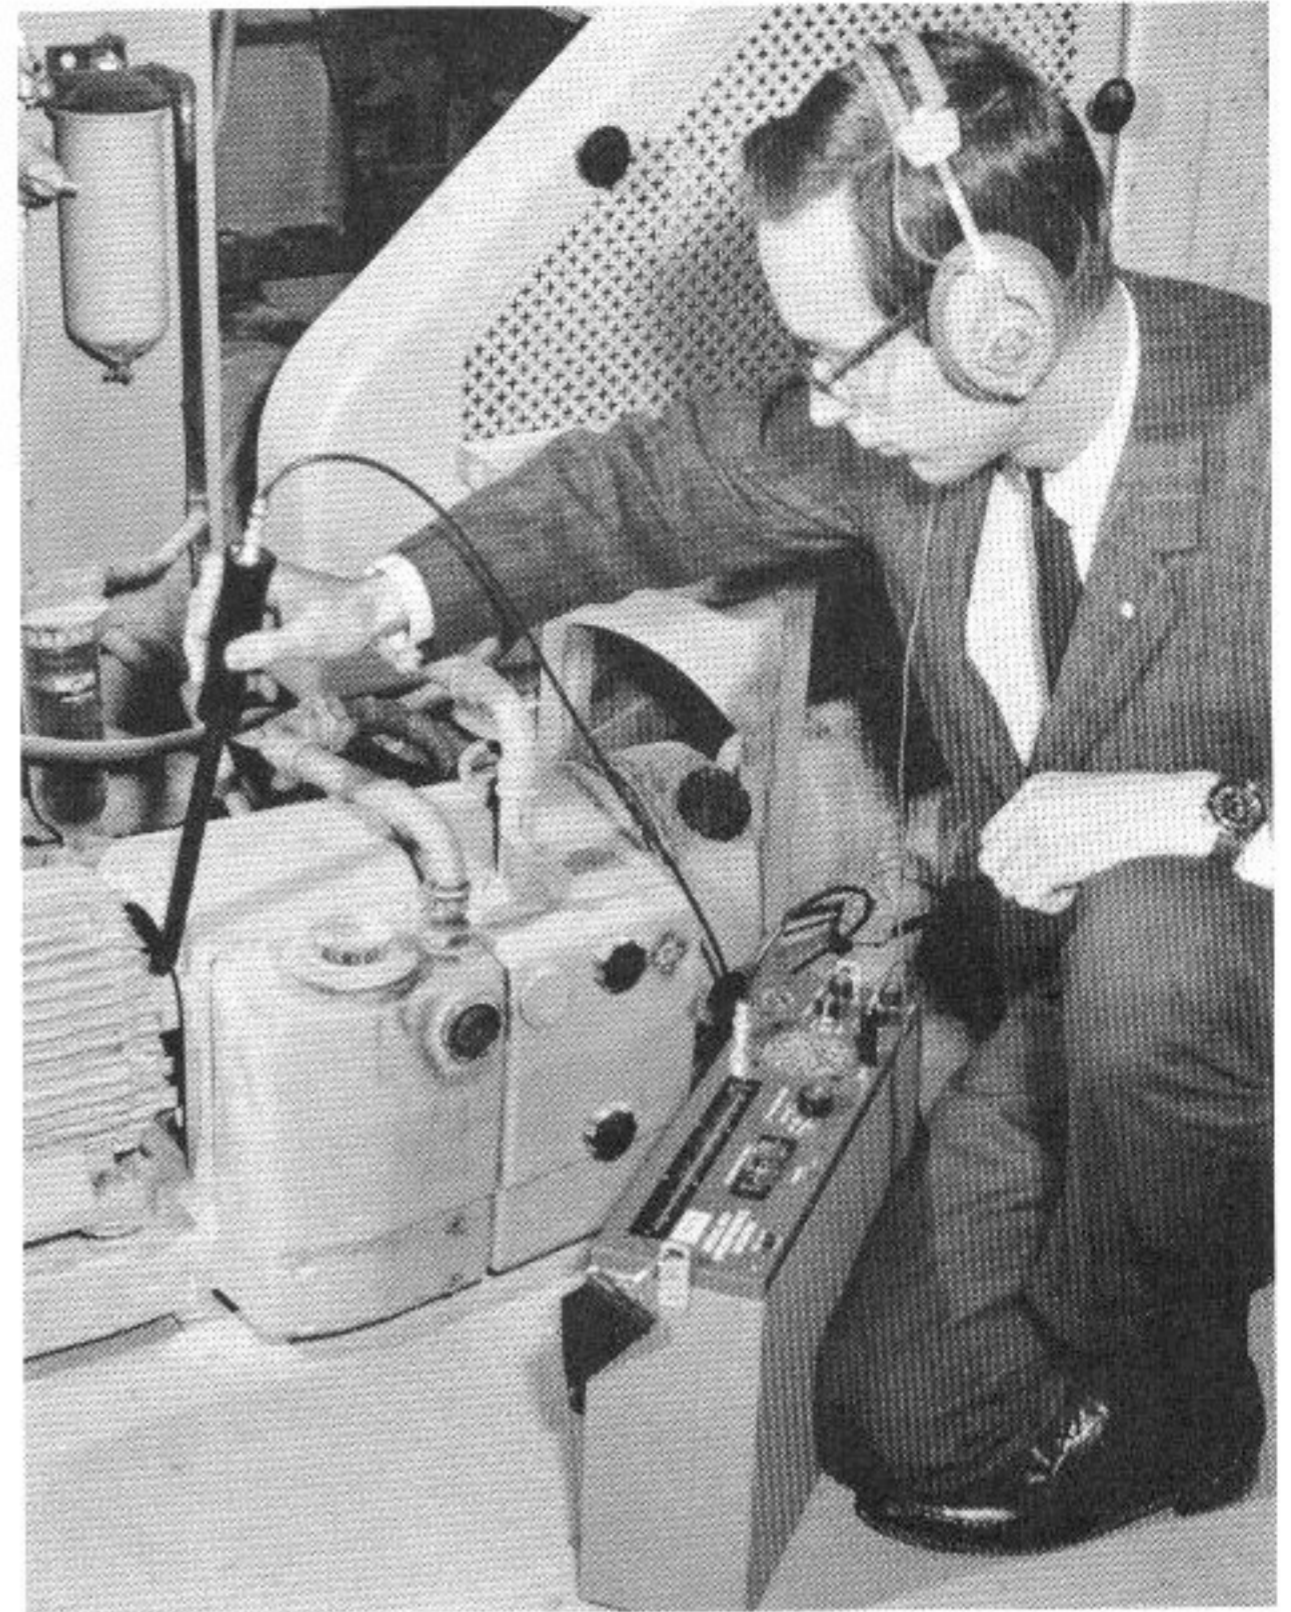

Figure 14
5.3 Final Readings. When the investigator is very close to the source of interference, the directional antenna will lose its effectiveness due to the strength of the signal from all directions. For precise location of the source, the r-f probe antenna should be used as shown in Figure 14. Here, the offending unit was found to be a badly arcing motor commutator.